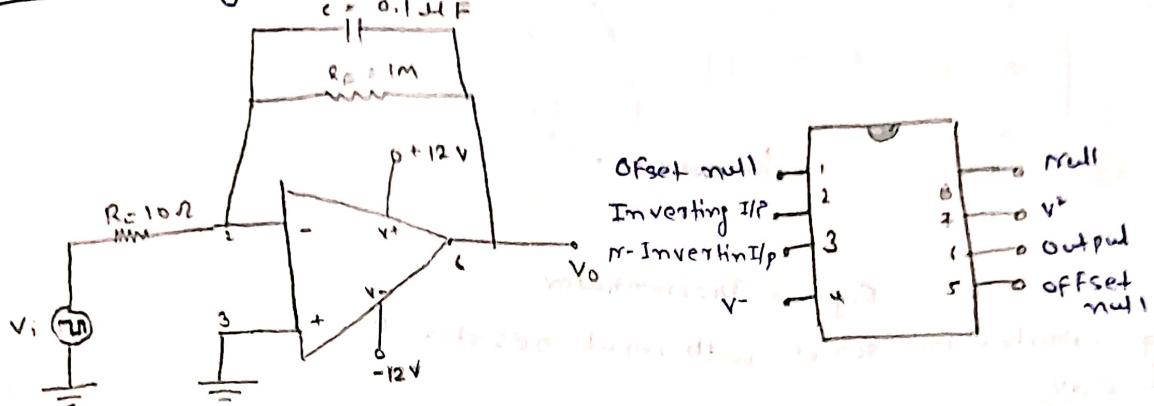

Fig. 2: Integrator
- 1.) Assemble the ckt as shown in fig. 2 make sure that power supply ( $\pm 12V$ ), ground is connected to ckt + to ckt ground,